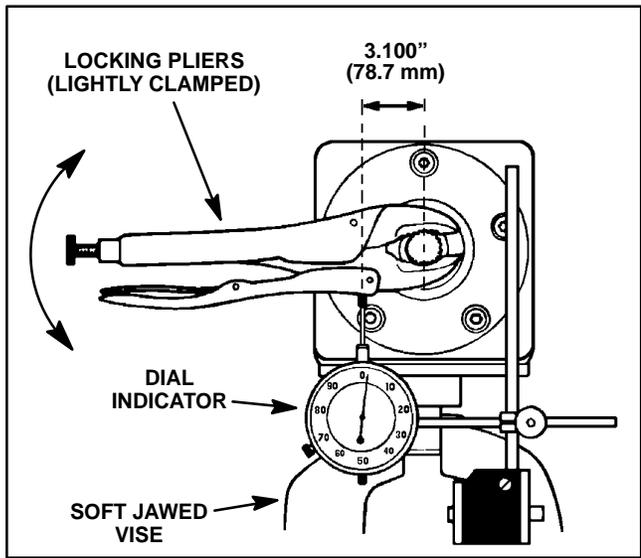
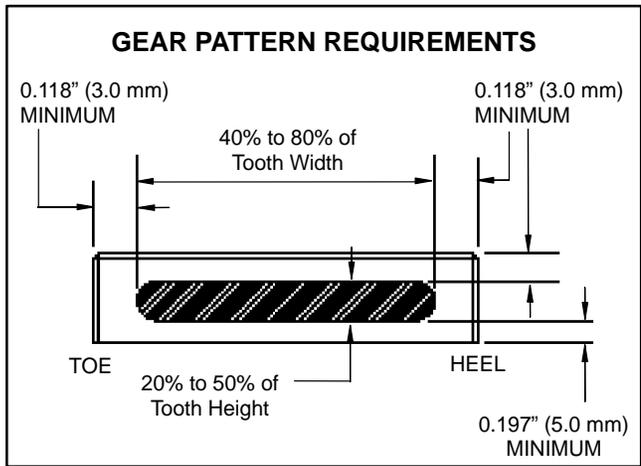

Figure 42
Figure 43
6. Position gasket(s) to quill housing and install housing assembly into gearbox housing. Make sure that gear teeth mesh properly with gear on cross shaft. Secure quill housing with six (6) flange head screws. Torque screws **81 ft-lbs (109 N-m)**.
7. Check gearbox backlash (Fig. 42):
B. Install quill housing into gearbox housing using the same number of gaskets and secure with six (6) flange head screws. Torque screws **81 ft-lbs (109 N-m)**.
E. Ideal pattern should cover from 40% to 80% of the gear face width (Fig. 43). The contact area should be in the center of each tooth and extend from 20% to 50% of the gear face height. The pattern should not run off the tooth heel, toe or top.